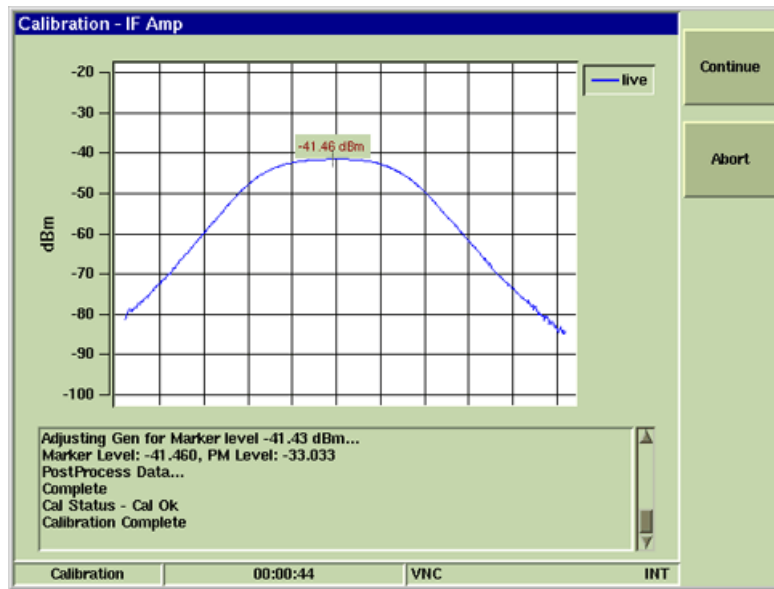

Fig. 4-20 IF AMP Channel Cal Signal Trace
- When the Channel Cal portion is complete, verify Calibration Complete is displayed in dialog box. Verify signal trace on Test Set resembles signal trace shown in Fig. 4-20.